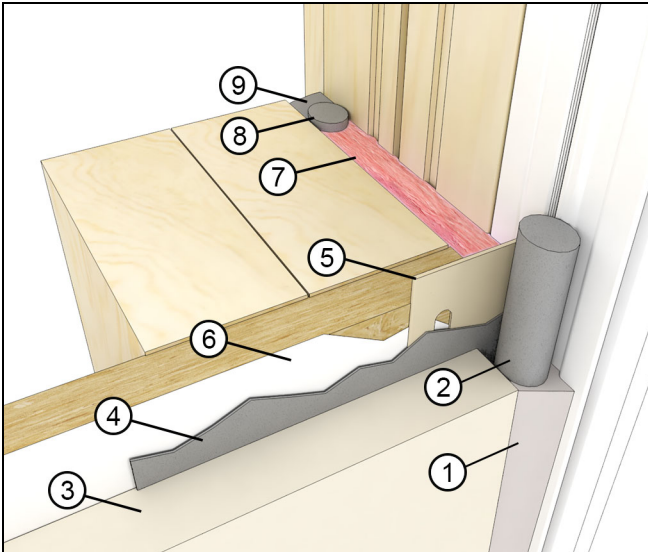

Figure 46
1. For ALL applications: Once the exterior finish such as siding or brick veneer is installed, apply bead of sealant between the finish and the frame exterior or casing along the sides. Apply additional beads approximately 1"- 2" (25-51) at the ends on top of the drip cap. Use a backer rod when necessary. See Figure 46 and Figure 47.